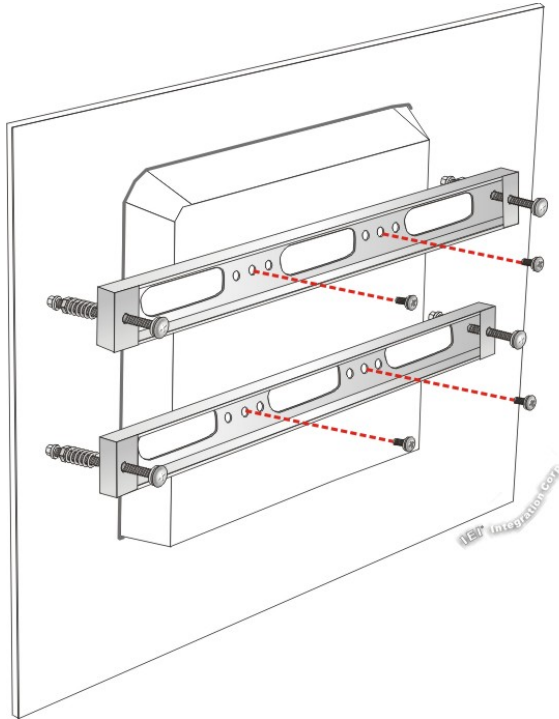

Figure 3-28: Securing Panel Mounting Brackets
Step 5: Secure the two panel mounting brackets to the rear of the panel PC by inserting the four retention screws into the VESA mounting holes and tightening them (**Figure 3-28**).